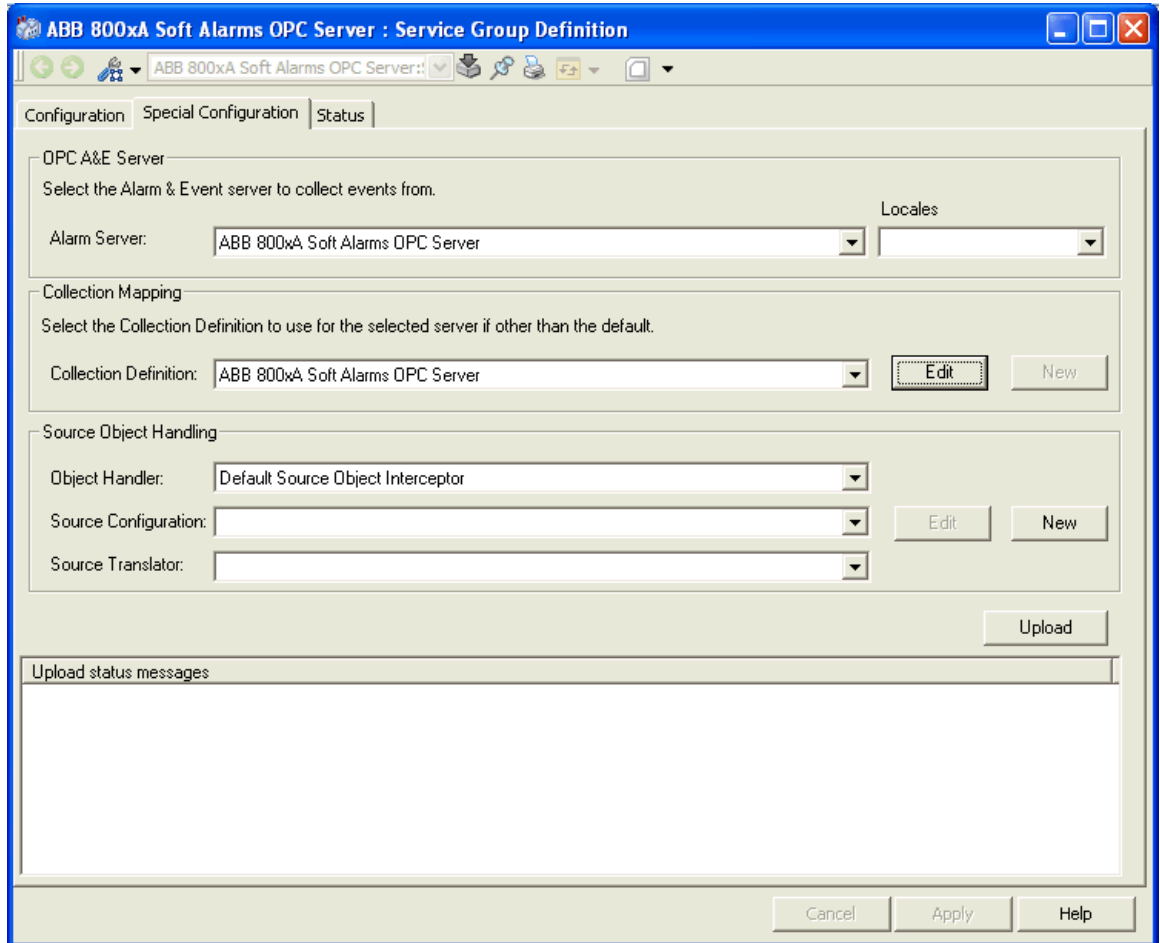

Figure 273. Special Configuration Tab
- a. Select the **Special Configuration** tab of the Event Collector service group. See Figure 273.